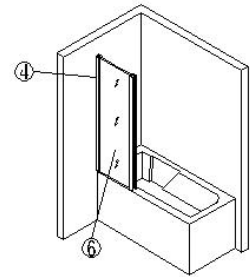

Fig.2
Step1.Insert the wall profile (#4 in Part List) into the fixing glass profile (#6), Attach the H-shape waterproof strip (#12 in PL) to fixing glass. Place the assembled fixing glass at the installation position, check and calibrate the fixing glass (#16 in PL) with spirit level to make sure it is plumb both to wall and floor. Mark the holes for the wall profile with pencil, then remove the fixing glass profile and drill holes. Fasten the wall profile (#4 in PL) to the wall tightly with wall plug (#1 in PL) and ST4\*40 screw (#2 in PL). (See fig.2 and 3)